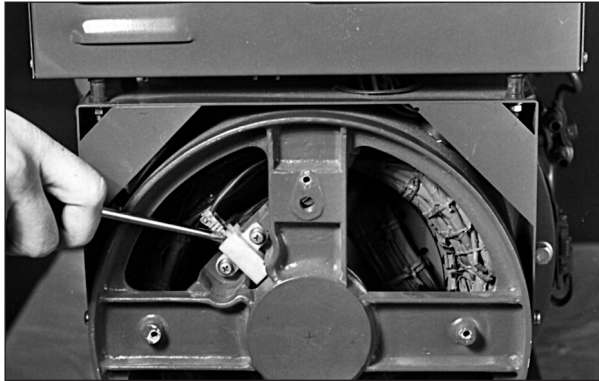

Figure 34: Brush Location.
- b. Brush assembly is black plastic with two wires leading to it. It is located at ten o'clock and is held in position by two screws (Figure 34). Remove the screws and unplug leads.